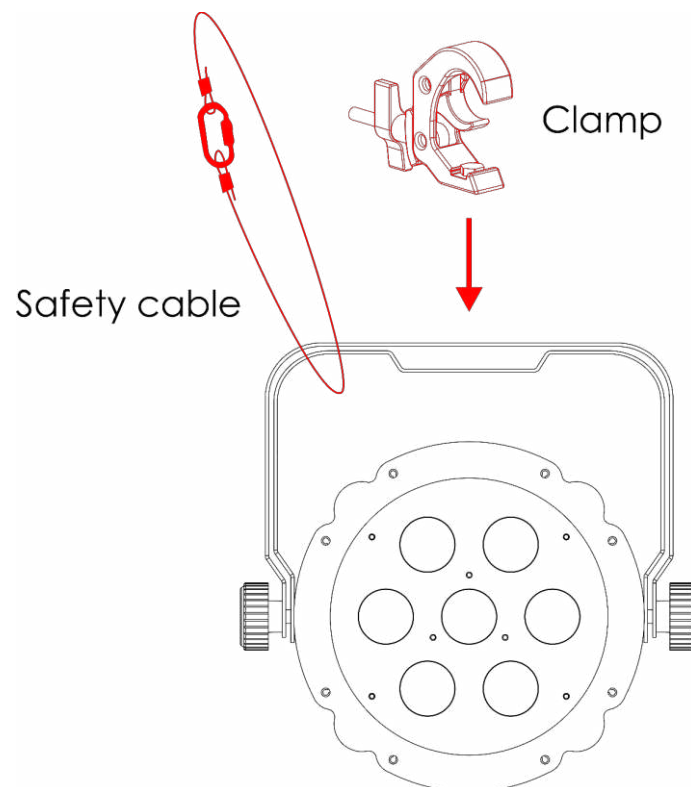

Fig. 07
- 01) Use a clamp to attach the device to the supporting structure, as shown in Fig. 07. Make sure that the device cannot move freely.
- 02) Secure the device with a secondary suspension, for example a safety cable. Make sure that the secondary suspension can hold 10 times the weight of the device. If possible, the secondary suspension should be attached to a supporting structure independent of the primary suspension. Put the safety cable around the **mounting bracket (03)**, as shown in Fig. 07.